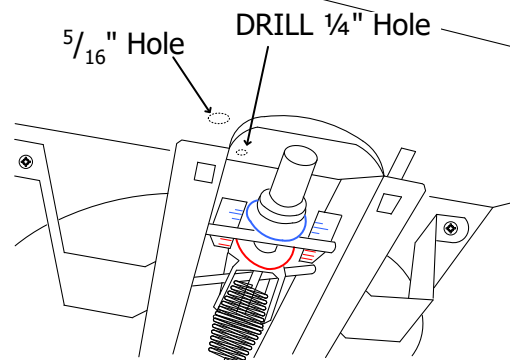

Fig. 2
3. Drill a $\frac{1}{4}$ " hole in the top of the scoop (see Fig. 2).